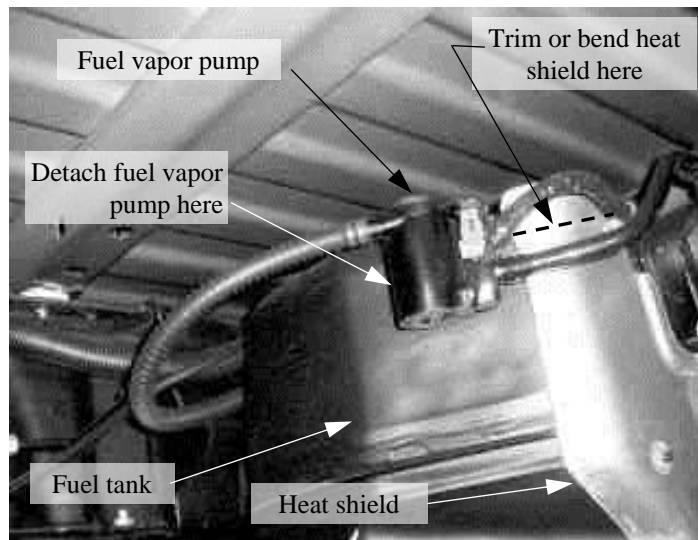

Figure 8
2. On short bed models, cut the heat shield on the gas tank or bend the top edge about 1" down to make room for the hitch (see Figure 8). On models with gasoline engines, temporarily detach the fuel vapor pump from the back of the gas tank.